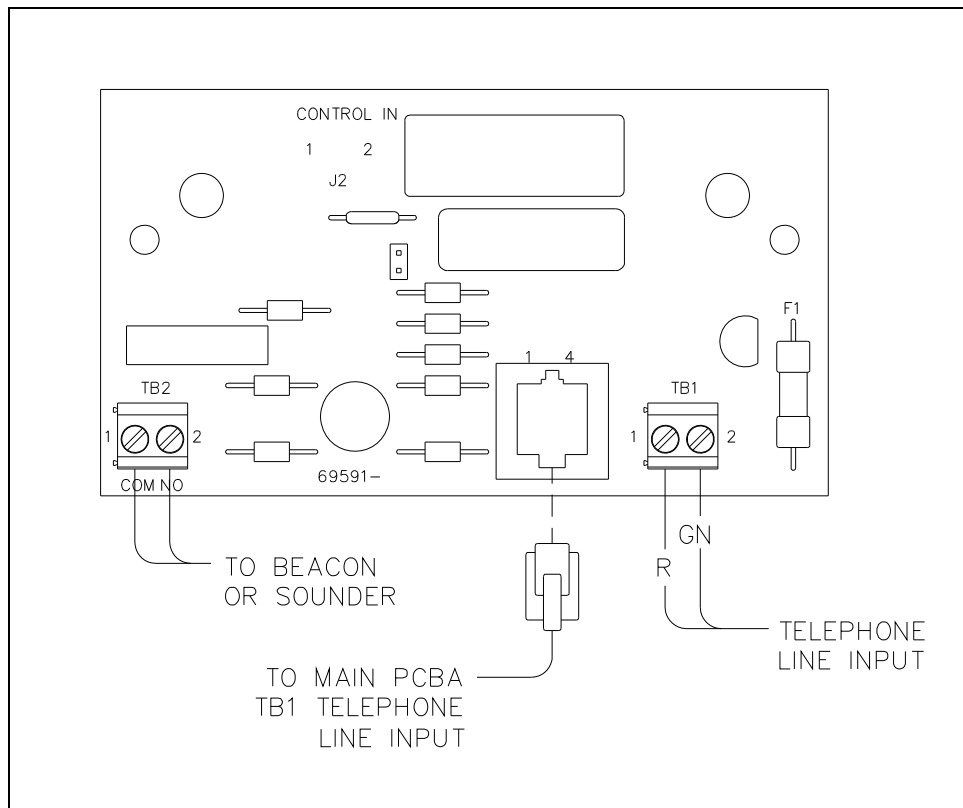
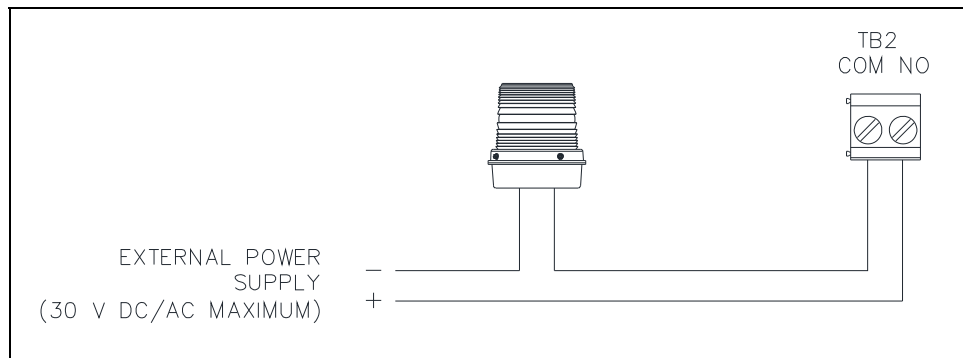
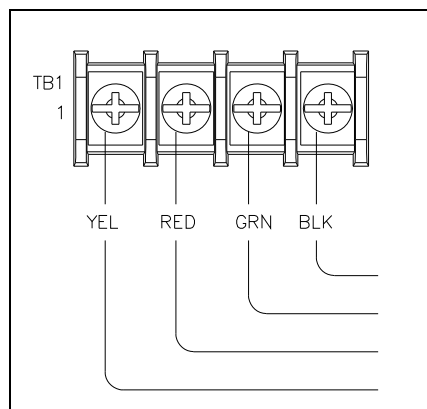

Figure 2. Ring Relay PCBA Wiring
Figure 3. Device Interconnection
Figure 4. Terminal Block TB1 on the Industrial Telephone PCBA
6. Connect the incoming telephone line to terminal block TB1, on the ring relay PCBA (see Figure 2).
7. Connect the external sounder or beacon to terminal block TB2, on the ring relay PCBA (see Figure 2 and Figure 3).
8. Connect the (provided) USOC RJ11C modular connector cord from the industrial telephone PCBA (see Figure 4) to the ring relay PCBA (see Figure 2).
8. Connect the (provided) USOC RJ11C modular connector cord, from the industrial phone PCBA (see Figure 4), to the ring relay PCBA (see Figure 2).
9. Connect the incoming telephone line to terminal block TB1, on the ring relay PCBA (see Figure 2).
10. Connect the external sounder or beacon to terminal block TB2, on the ring relay PCBA (see Figure 2 and Figure 3).
11. Connect the (provided) USOC RJ11C modular connector cord from the industrial phone PCBA (see Figure 4) to the ring relay PCBA (see Figure 2).